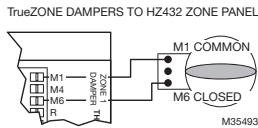

Fig. 1. 2-Wire Operation (Red LED only).
- a. For 2 wire usage, wire M1 and M6. See Fig. 1.